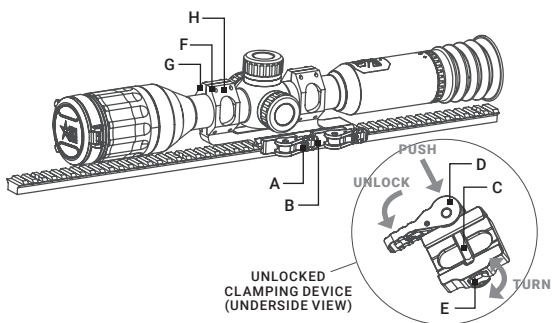

FIGURE 2-6. INSTALLATION WITH QUICK RELEASE MOUNT
You can mount the Spectrum-IR scope on a Picatinny/Weaver rail of weapon using optional quick release (QR) mount (Figure 2-6).